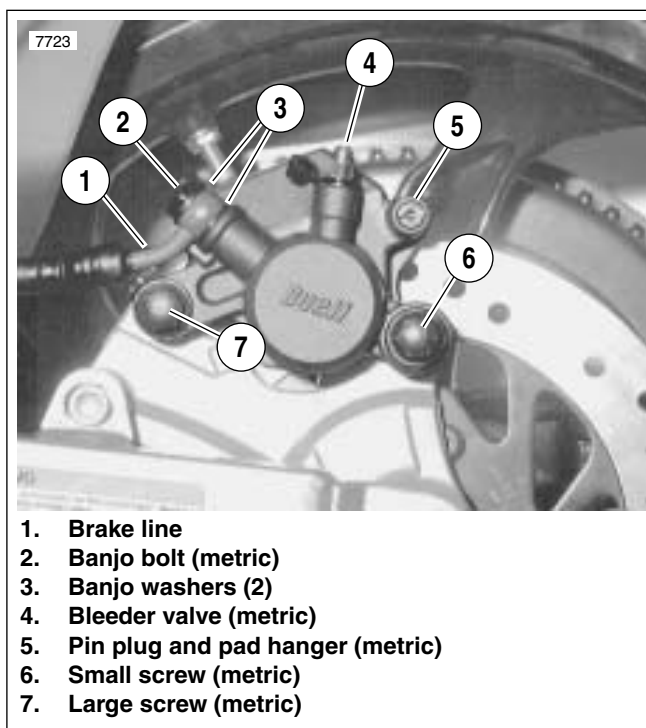

Figure 2-59. Rear Brake Caliper (Typical)
2. See Figure 2-59. Install caliper assembly on caliper mount. Brake pad surfaces must face rear brake rotor.
- b. Install large caliper screw (7) (metric). Tighten to 18-22 ft-lbs (24-30 Nm).
- c. Install small caliper screw (6) (metric). Tighten to 15-18 ft-lbs (20-24 Nm).